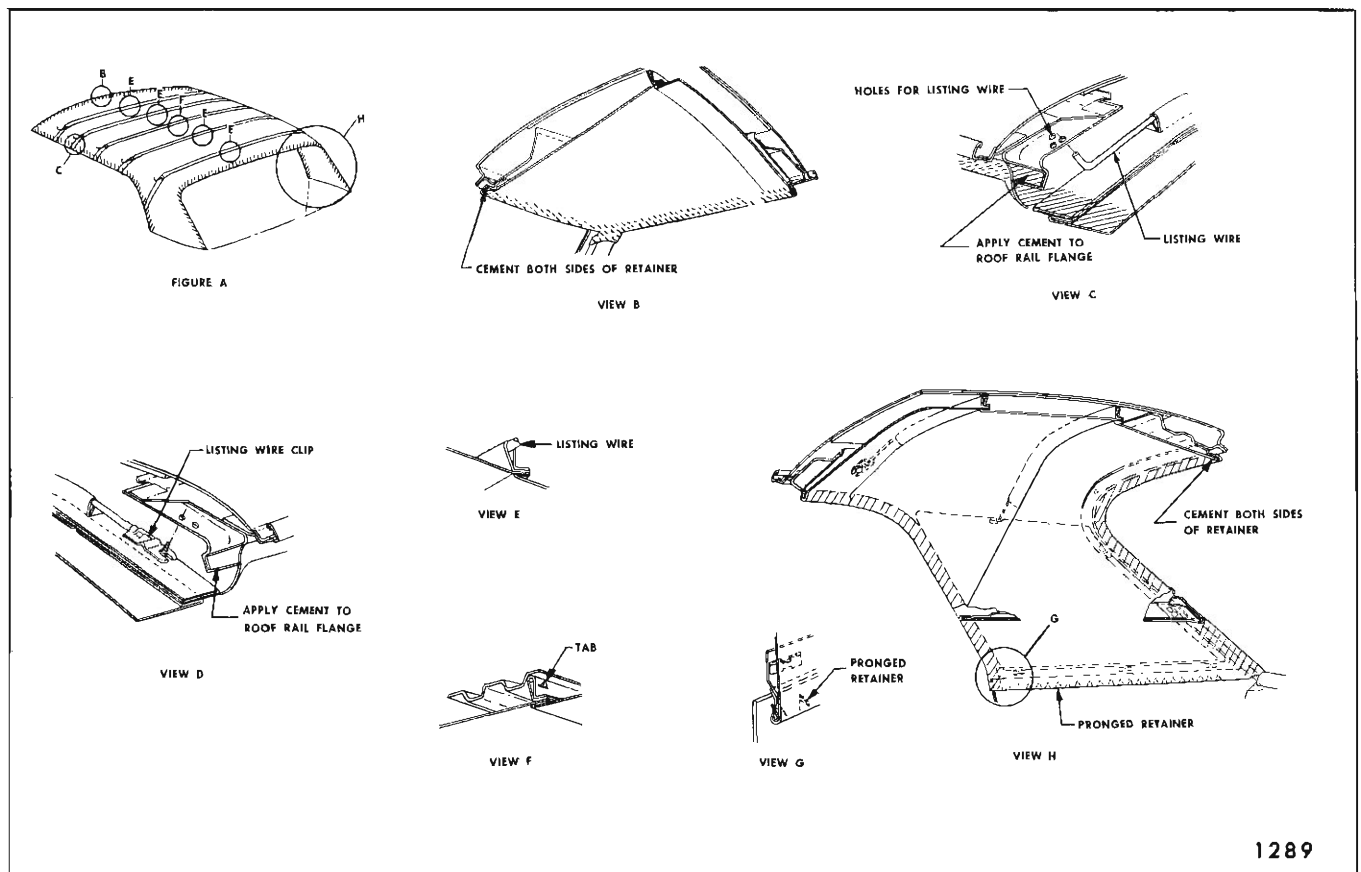

Fig. 5G1—Headlining Installation
3. Carefully detach headlining from windshield, back window, side roof rail flanges and rear quarter areas. On "39" styles disengage headlining at the rear quarter lower edge, from the pronged retainer (View "G" and "H," Fig. 5G1).